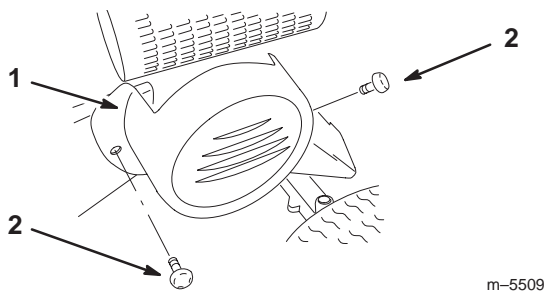

Figure 28
1. Remove the two knobs and belt cover from the tractor (Fig. 28).
13. Install belt cover (Fig. 28).